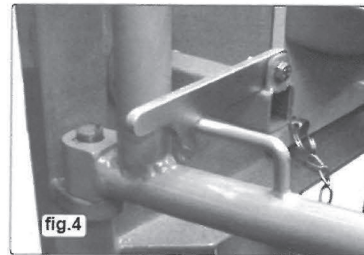

fig.4
4. Fix the guard lock to the front of the unit using four cross headed bolts (fig 4).